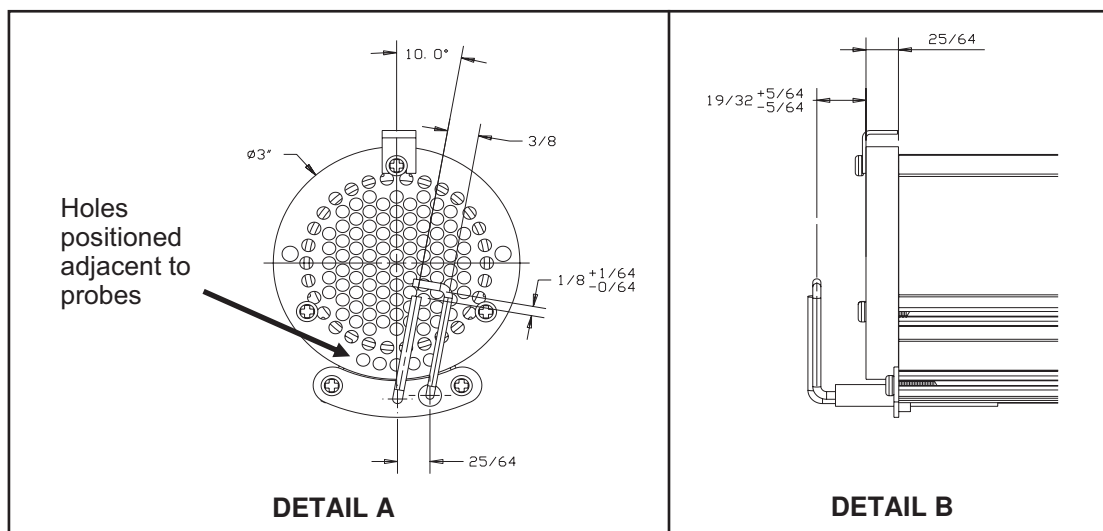

Figure 26. Flame Plate and Ignitor Spark Gap
7. Check flame plate and inside burner head for contamination and clean as necessary. Replace flame plate as necessary ensuring that five holes on outer ring are aligned properly (see **Figure 26**, DETAIL A).
9. Check igniter assembly for deterioration. Replacement at each service is advised to ensure continued reliability. Ensure that lead connectors are secure to prevent incorrect sparking of electrode and ensure that spark gap is in accordance with **Figure 26**, DETAIL B).